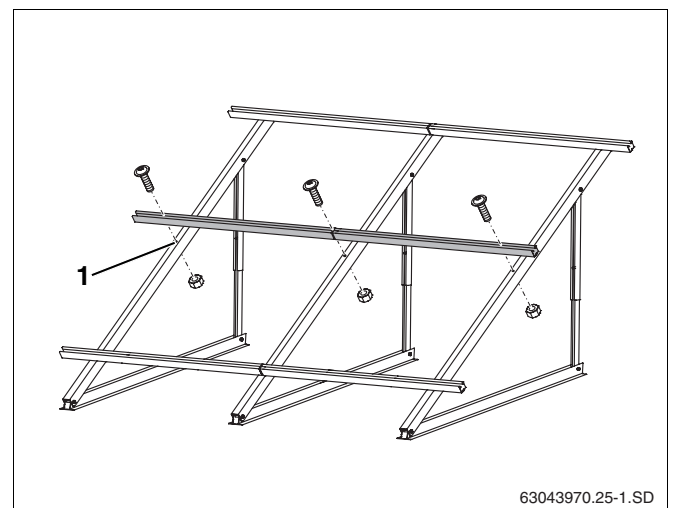

Fig. 35 Fitting additional profile rails
- ▶ Fasten additional profile rails as described in Chapter 5.5.2 "Installing profile rails", using the middle hole on the profile (Fig. 35, **Item 1**).